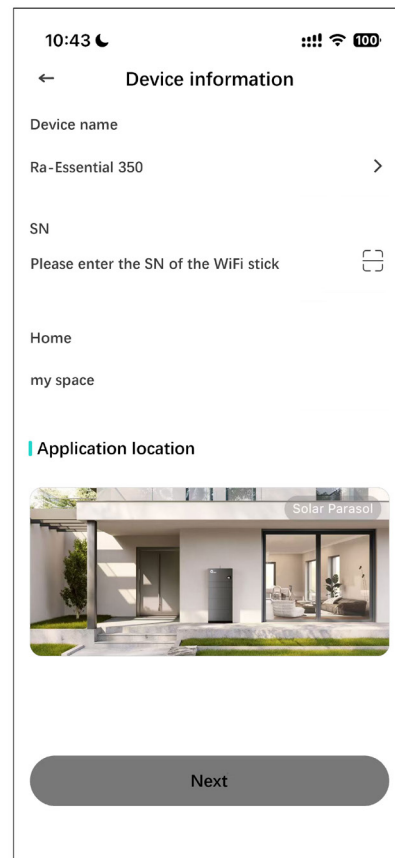

Figure 6
5.2.6 Enter SN Code (see Figure 6)